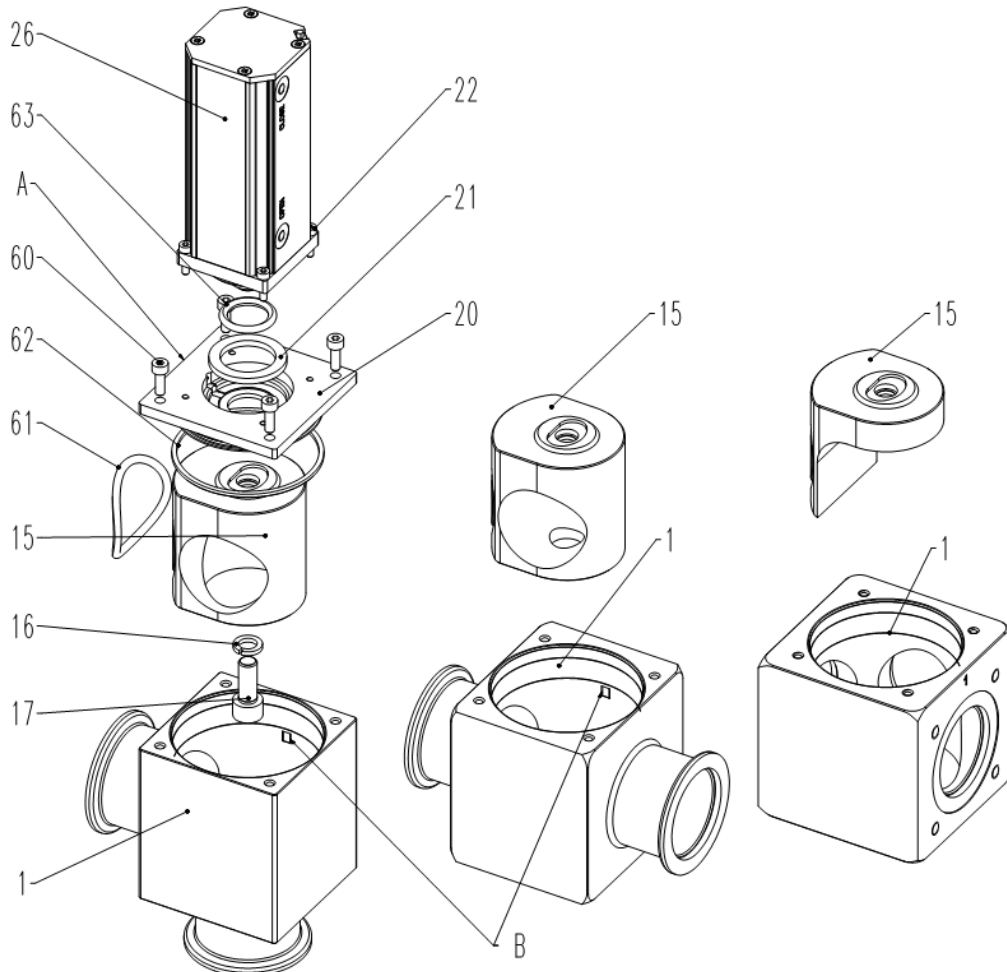

Figure 6-5
The leak detection port; see «Figure 6-5» on page 20 should be located on the opposite side from the compressed air inlets.
14. Insert the gate fixation screw (17) and washer(16). Tighten the gate fixation screw (17) with a tightening torque of 10 Nm.
15. Put new gate seal (61) on the groove and press it into the groove at 4 opposite spots. Press remaining sections uniformly into groove.
16. Put new bonnet seal (62) into bonnet flange (20).
17. Make sure that the gate (15) is located in an intermediate position (not locked in an end-position).
18. Carefully insert the valve insert into the body (1).
See «Figure 6-5» on page 20 for correct location of venting groove inside valve body (1) with compressed air connection ports from the actuator.
19. Fasten screws (60) uniformly and in crosswise order.